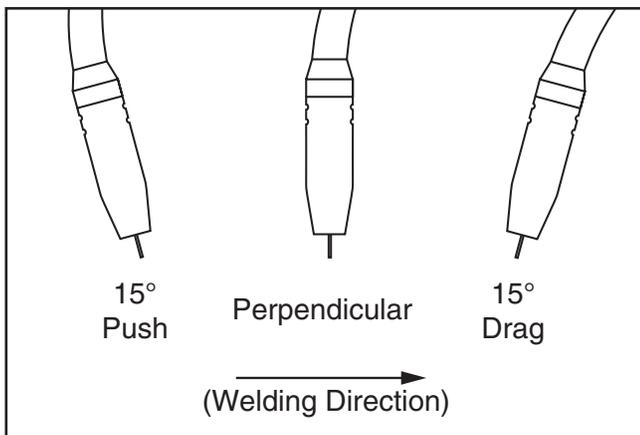

Figure 22. Welding angle.
- Tilt gun 15–20° along direction of weld to allow better visibility of weld location (see **Figure 22**).